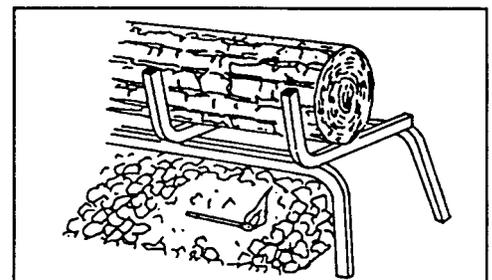

Figure 8- Lighting the log set
- C. Lay match on top of embers and granules near gas burner input. Do not hold match in hand (See Figure 8).